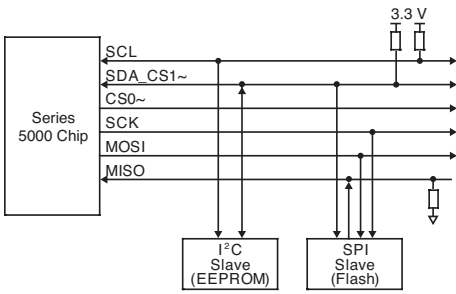

Figure 4: Using both I2C and SPI Interfaces for External NVM Memories
**Using both I2C and SPI interfaces.** Figure 4 shows a Neuron 5000 Processor that includes both an I2C memory device (a 2KB EEPROM device) and a SPI memory device (a flash memory device). Although both EEPROM and flash memory share the SDA\_CS1- pin, there is no conflict because only one of them can be active at a time. SDA is an active high signal and CS1- is an active low signal. While small applications could use EEPROM both for application code and configuration data, larger applications might find it economical to use a small EEPROM for configuration data and a flash device for application code. The choice between EEPROM and flash can be affected by multiple factors, including: